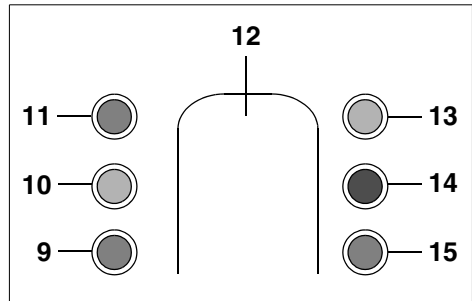

Fig. 7 : LEDs
- a) Press both locking hooks inwards (16) on the control head side and remove the cover (2).
- b) To do so, the water softening system must be in the operating position (LED "Regeneration" (13) is off). Start regeneration by pressing the regeneration button (12) (see fig. 7). The LED "Regeneration" (13) lights up whilst the LED "Switching chamber" (10) flashes simultaneously in time with the servo drive. After 9 to 10 drive cycles, the salting position is reached (marking "2" on the operating phase indicator (24)). The LED "Switching chamber" (10) goes out, the LED "Bacterial protection - left cham-
- The LEDs of the electronic control unit. The red LED flashes in the event of faults (see fig. 7).